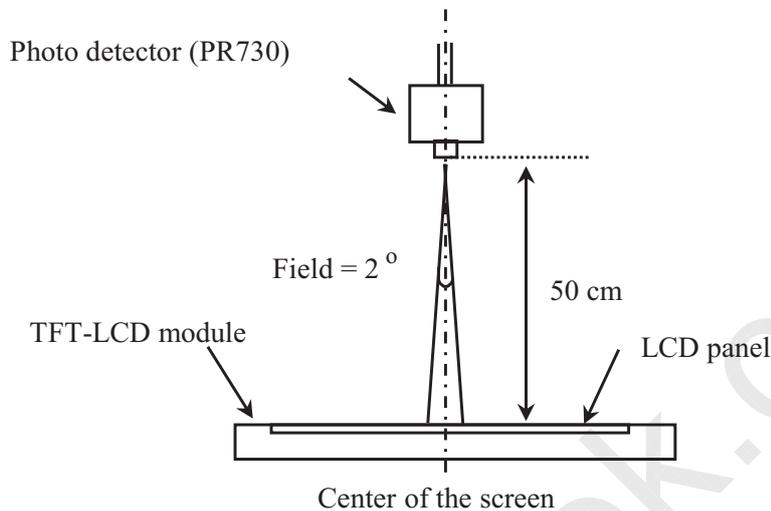

Figure 7. Measurement Set Up
- Viewing angle is the angle at which the contrast ratio is greater than 10. The viewing angles are determined for the horizontal or 3, 9 o'clock direction and the vertical or 6, 12 o'clock direction with respect to the optical axis which is normal to the LCD surface (see Figure 7).
- Contrast measurements shall be made at viewing angle of $\Theta = 0$ and at the center of the LCD surface. Luminance shall be measured with all pixels in the view field set first to white, then to the dark (black) state . (see Figure 7) Luminance Contrast Ratio (CR) is defined mathematically.
Center Luminance of white is defined as luminance values of center 5 points across the LCD surface. Luminance shall be measured with all pixels in the view field set first to white. This measurement shall be taken at the locations shown in Figure 7 for a total of the measurements per display.